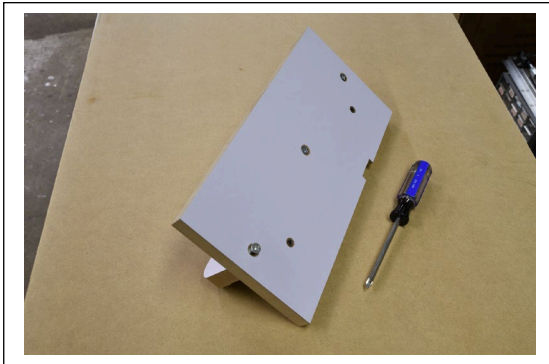

fig. 1
1. Start by securing the mounting cleat (B) to the vertical fence (A) using the three M6 machine screws (F). The side of the mounting cleat with the small MDF strip exposed faces downward toward the notch at the bottom of the vertical fence (see fig 1).